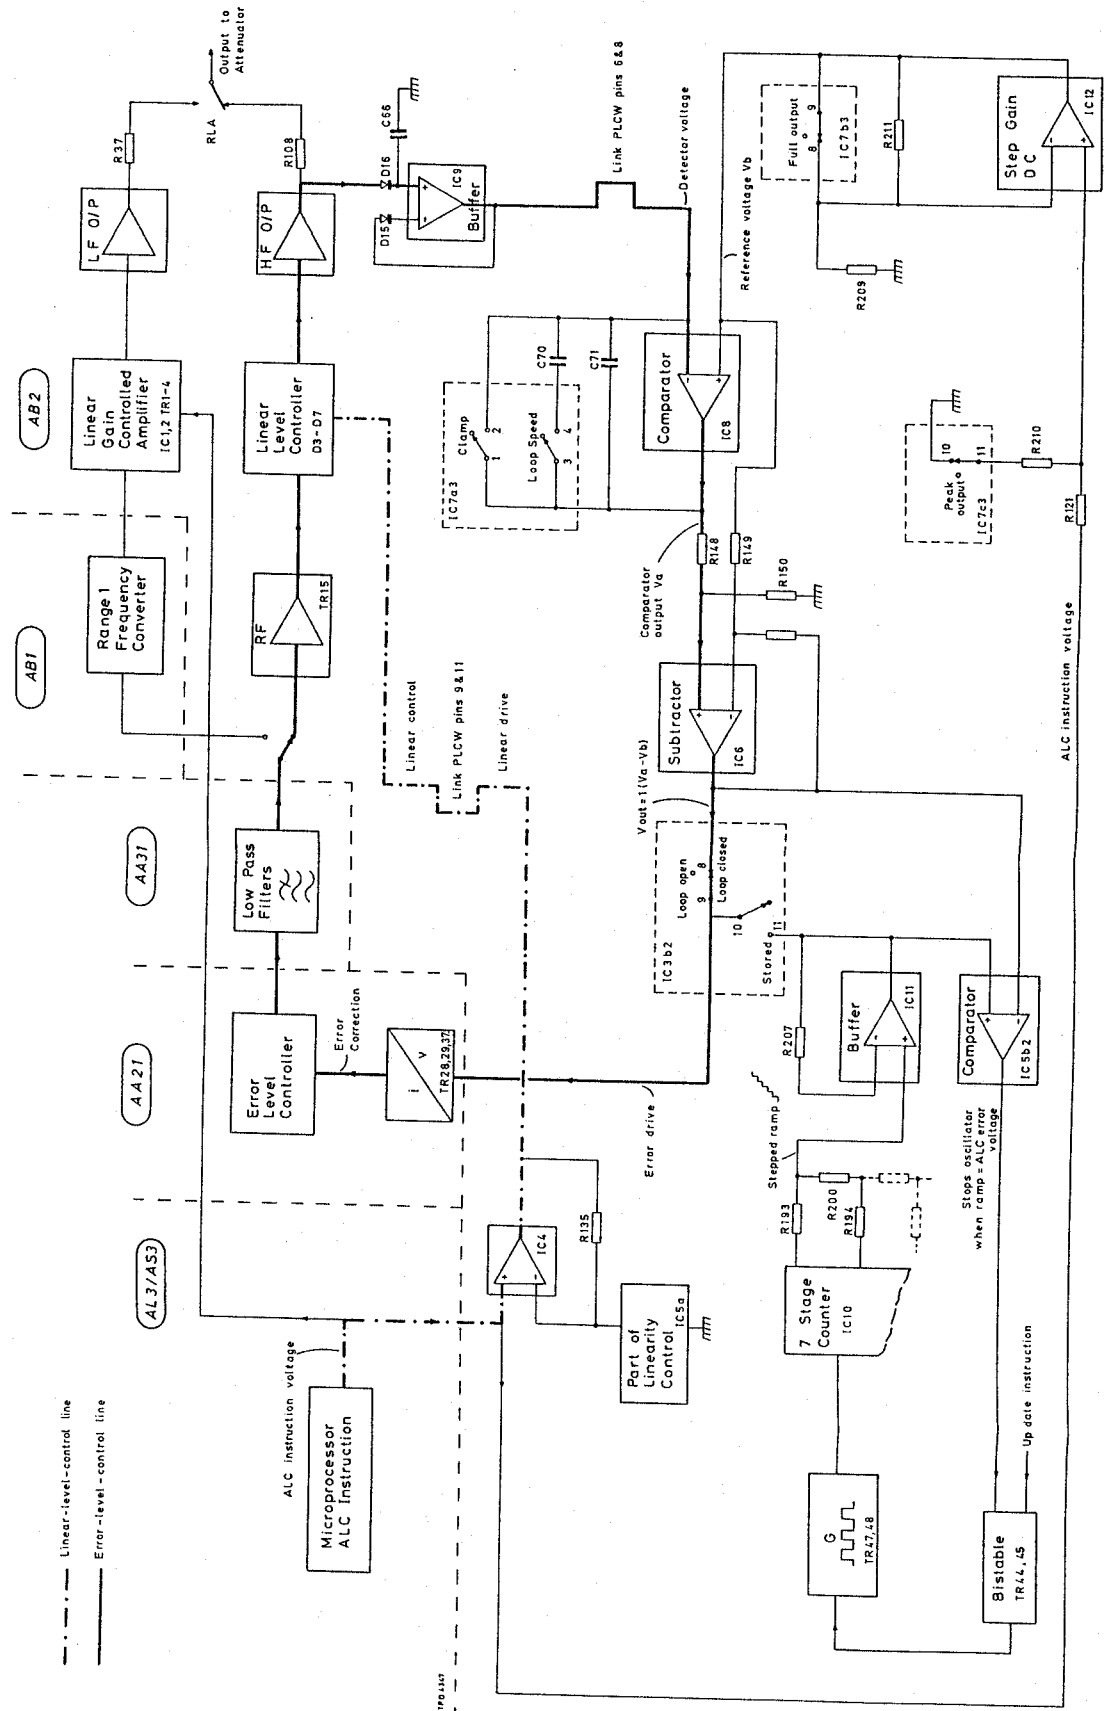

Fig. 8 Output amplifiers and ALC, (AB2) simplified block diagram
42. The detector voltage at the output of IC9, a positive-going d.c., is compared with a reference voltage  $V_b$  (see Fig. 8) produced by the microprocessor via a D-A converter. Both signal voltages are fed to IC8 d.c. integrating comparator to produce an error voltage  $V_a$ . IC9 detector voltage is fed via R77, R78 divide-by-two network, and through a link across pins 6 and 8 of PLCW (test socket). The ALC microprocessor instruction, between +1 V and +2 V from pin 16 of PLCW is fed to switched attenuator R210, R121, and IC12 programmable step gain d.c. amplifier. The gain of these may be switched to Normal x1, Full output x2, or Peak output x4.